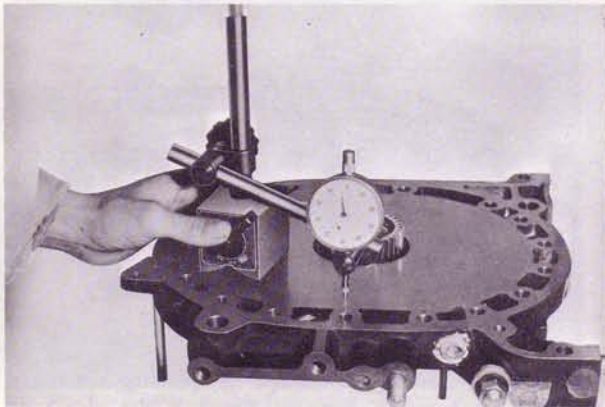

Fig. 1-28 Checking wear
4. Check for wear on the rotor sliding surfaces of the housing and joint surfaces with rotor housing as shown in Fig. 1-28.